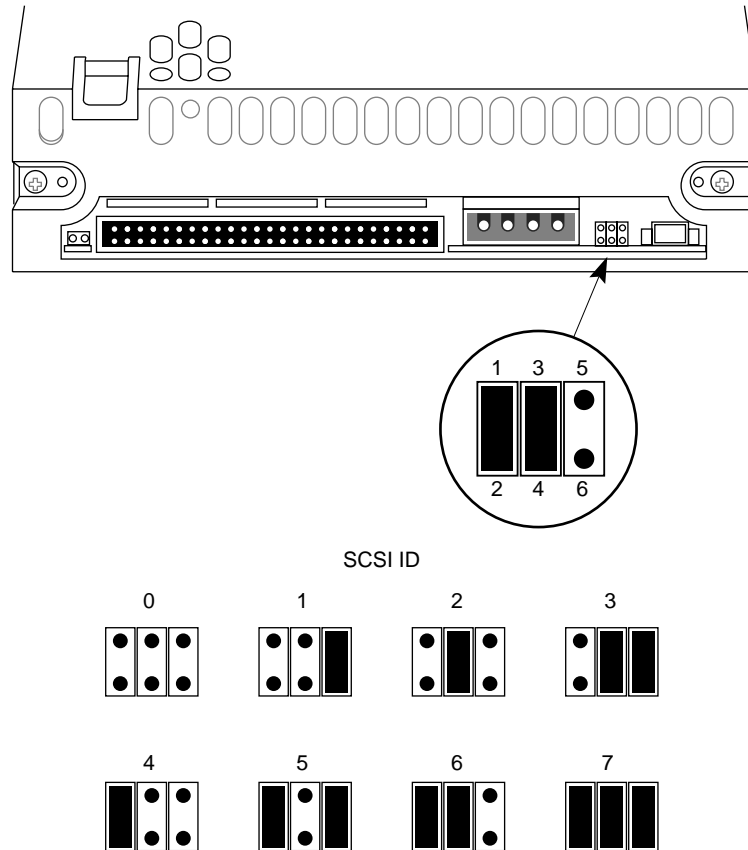

Figure 1-2 Setting the SCSI ID (Default Setting Shown)
3. Locate the SCSI ID jumper block on the back of the tape drive (see Figure 1-2).